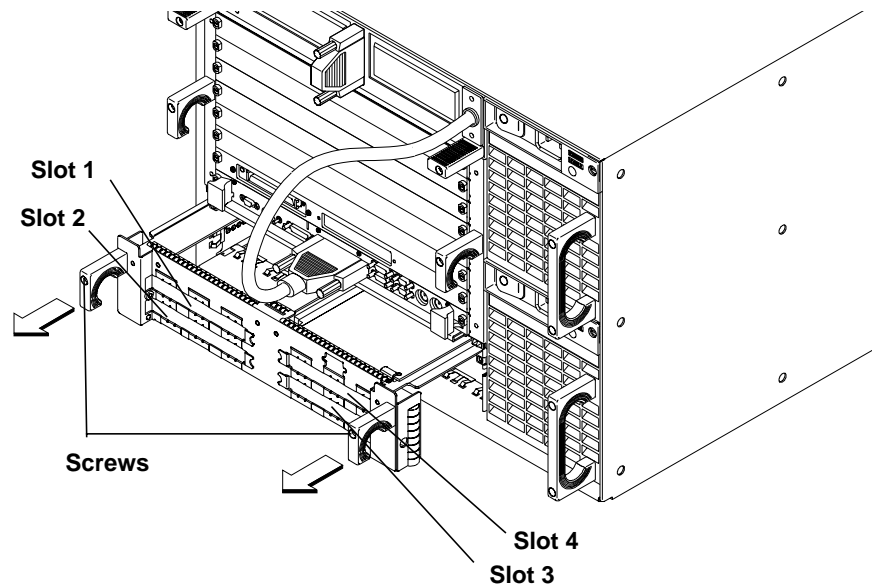

Figure 1 **Removing the EISA Module**
- 4 Grasp the EISA module handles and pull the EISA module out of the chassis, as shown in Figure 1.